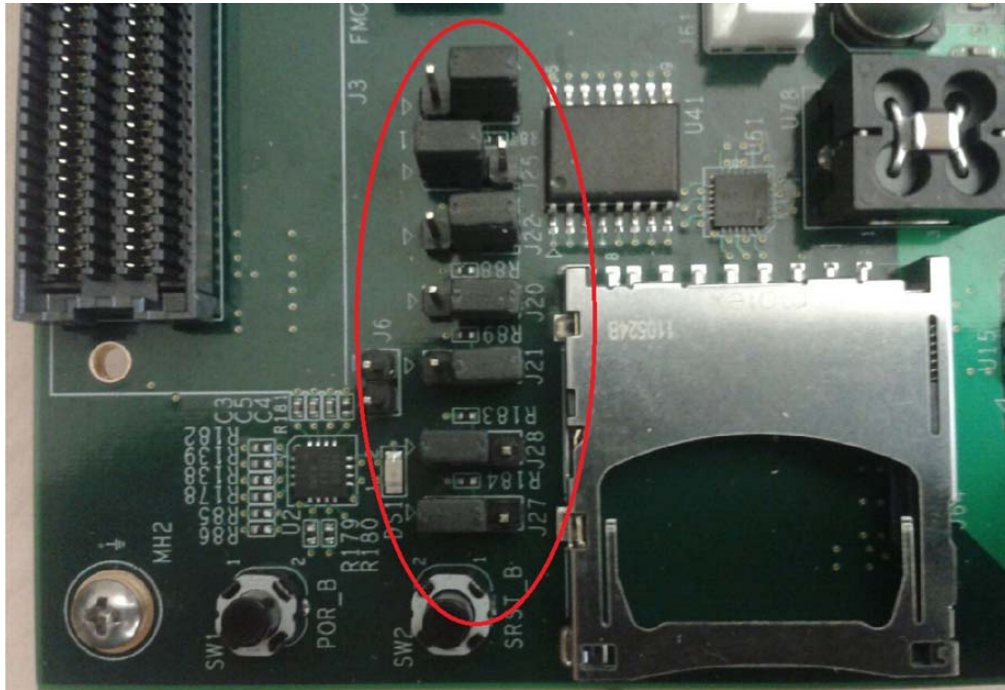

Figure 5-4: Jumper Settings for Booting Linux from QSPI Flash
1. After you program the QSPI Flash, set the Jumper settings on your board as shown in Figure 5-4. You'll need to set the following Jumpers: J20, J21, J22, J25, J26, J27, and J28.